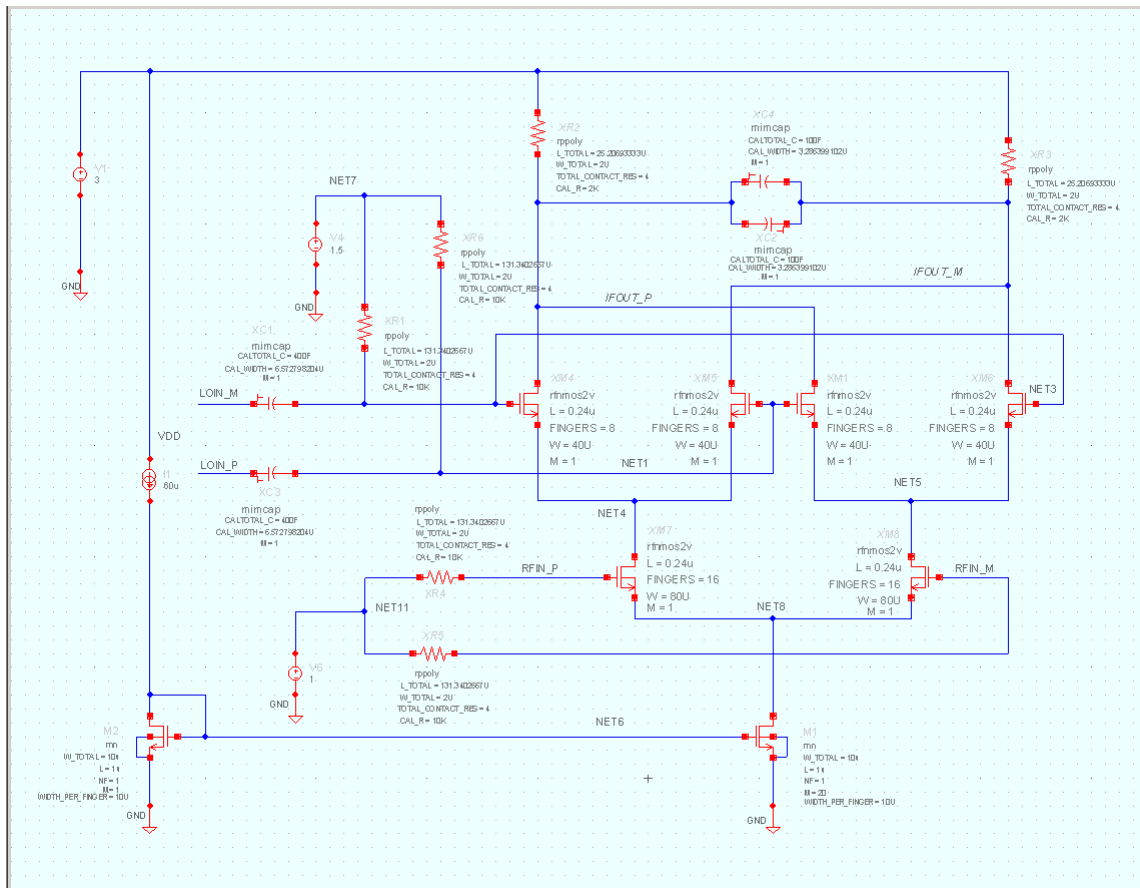

Figure 1: Mixer Schematic
1.1.1: To load the Mixer example circuit schematic, select **File->Open->Schematic**. When the file browser appears, navigate to the `./MIXER` directory and select the file `mixer.schlr`. The Mixer example circuit schematic will appear in the window (Figure 1).